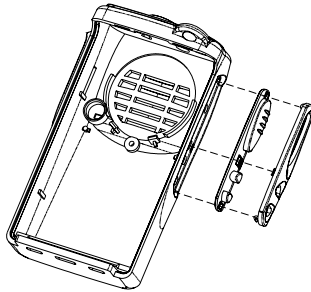

Fig.7
1. Attach PTT: Align the tab on PTT with the corresponding hole on the case. (See fig.7)